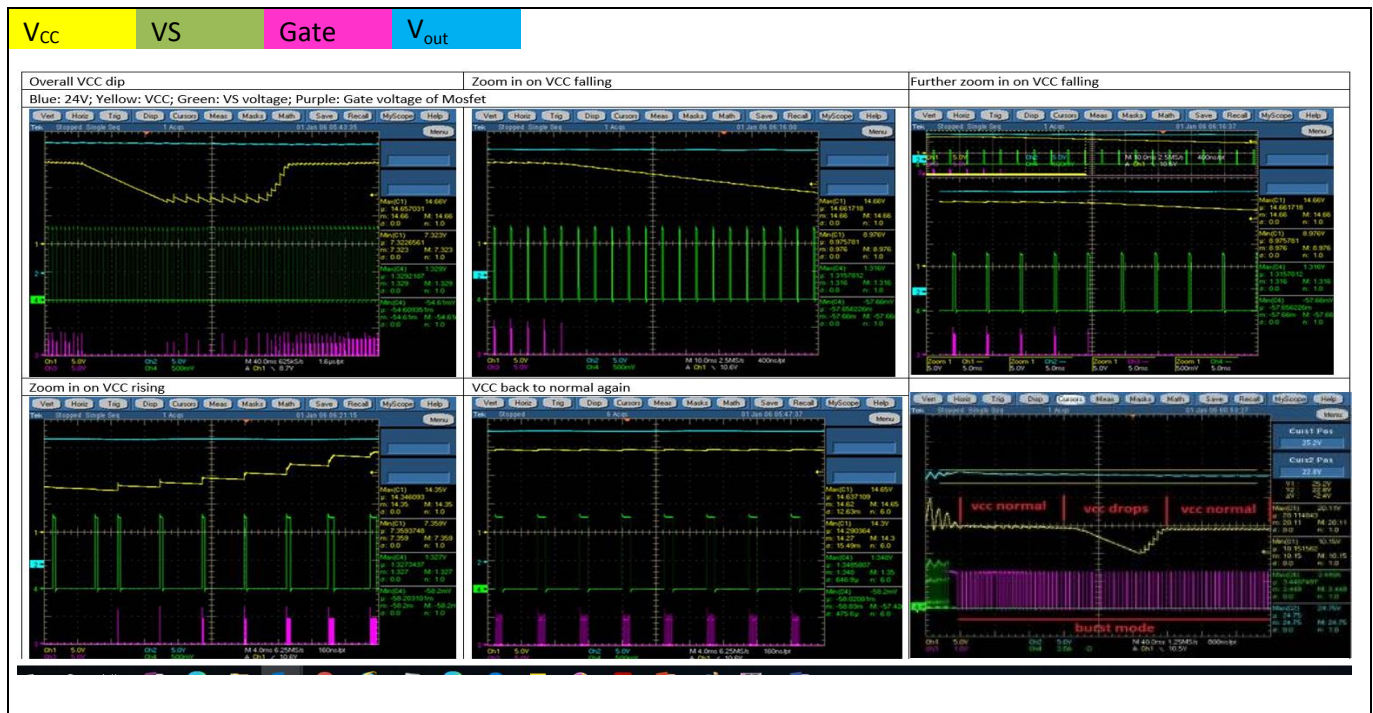

Figure 38 V_{CC} maintainance mode if V_{CC} drops too low, with minimum impact on output; VS signal shows wake-ups and gate-only pulses if necessary
- In addition to the BM wake-up according to the control loop, a higher-priority V_{CC} wake-up threshold may trigger a burst start if V_{CC} drops as low as V_{CCwake} . The controller continues with the burst until V_{CC} increases up to $V_{CCburst}$ again (this behavior can be seen in Figure 38).
This V_{CC} maintainance mode is designed to have minimal impact on the output voltage. Furthermore, the coupling and the fact that in this case the auxiliary winding has the highest power demand should help with minimizing the impact on the output voltage. This behavior can also help to keep microcontroller functional, and it is shown in Figure 38.